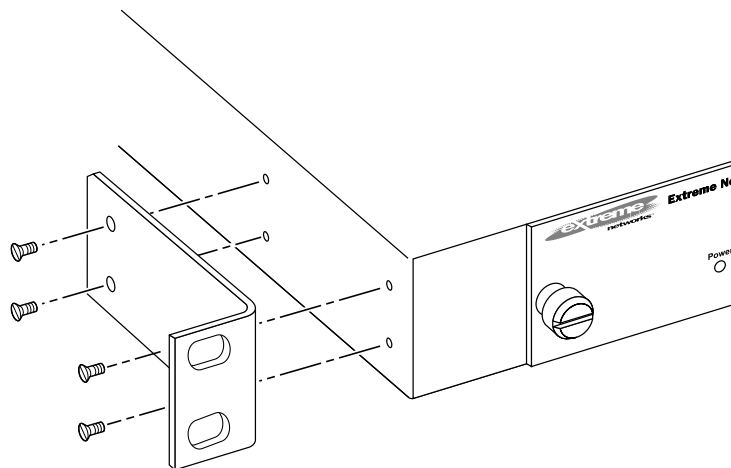

Figure 295: Attaching the Mounting Bracket
- a. Place a mounting bracket over the mounting holes on one side of the EPS-T2 (see Figure 295).